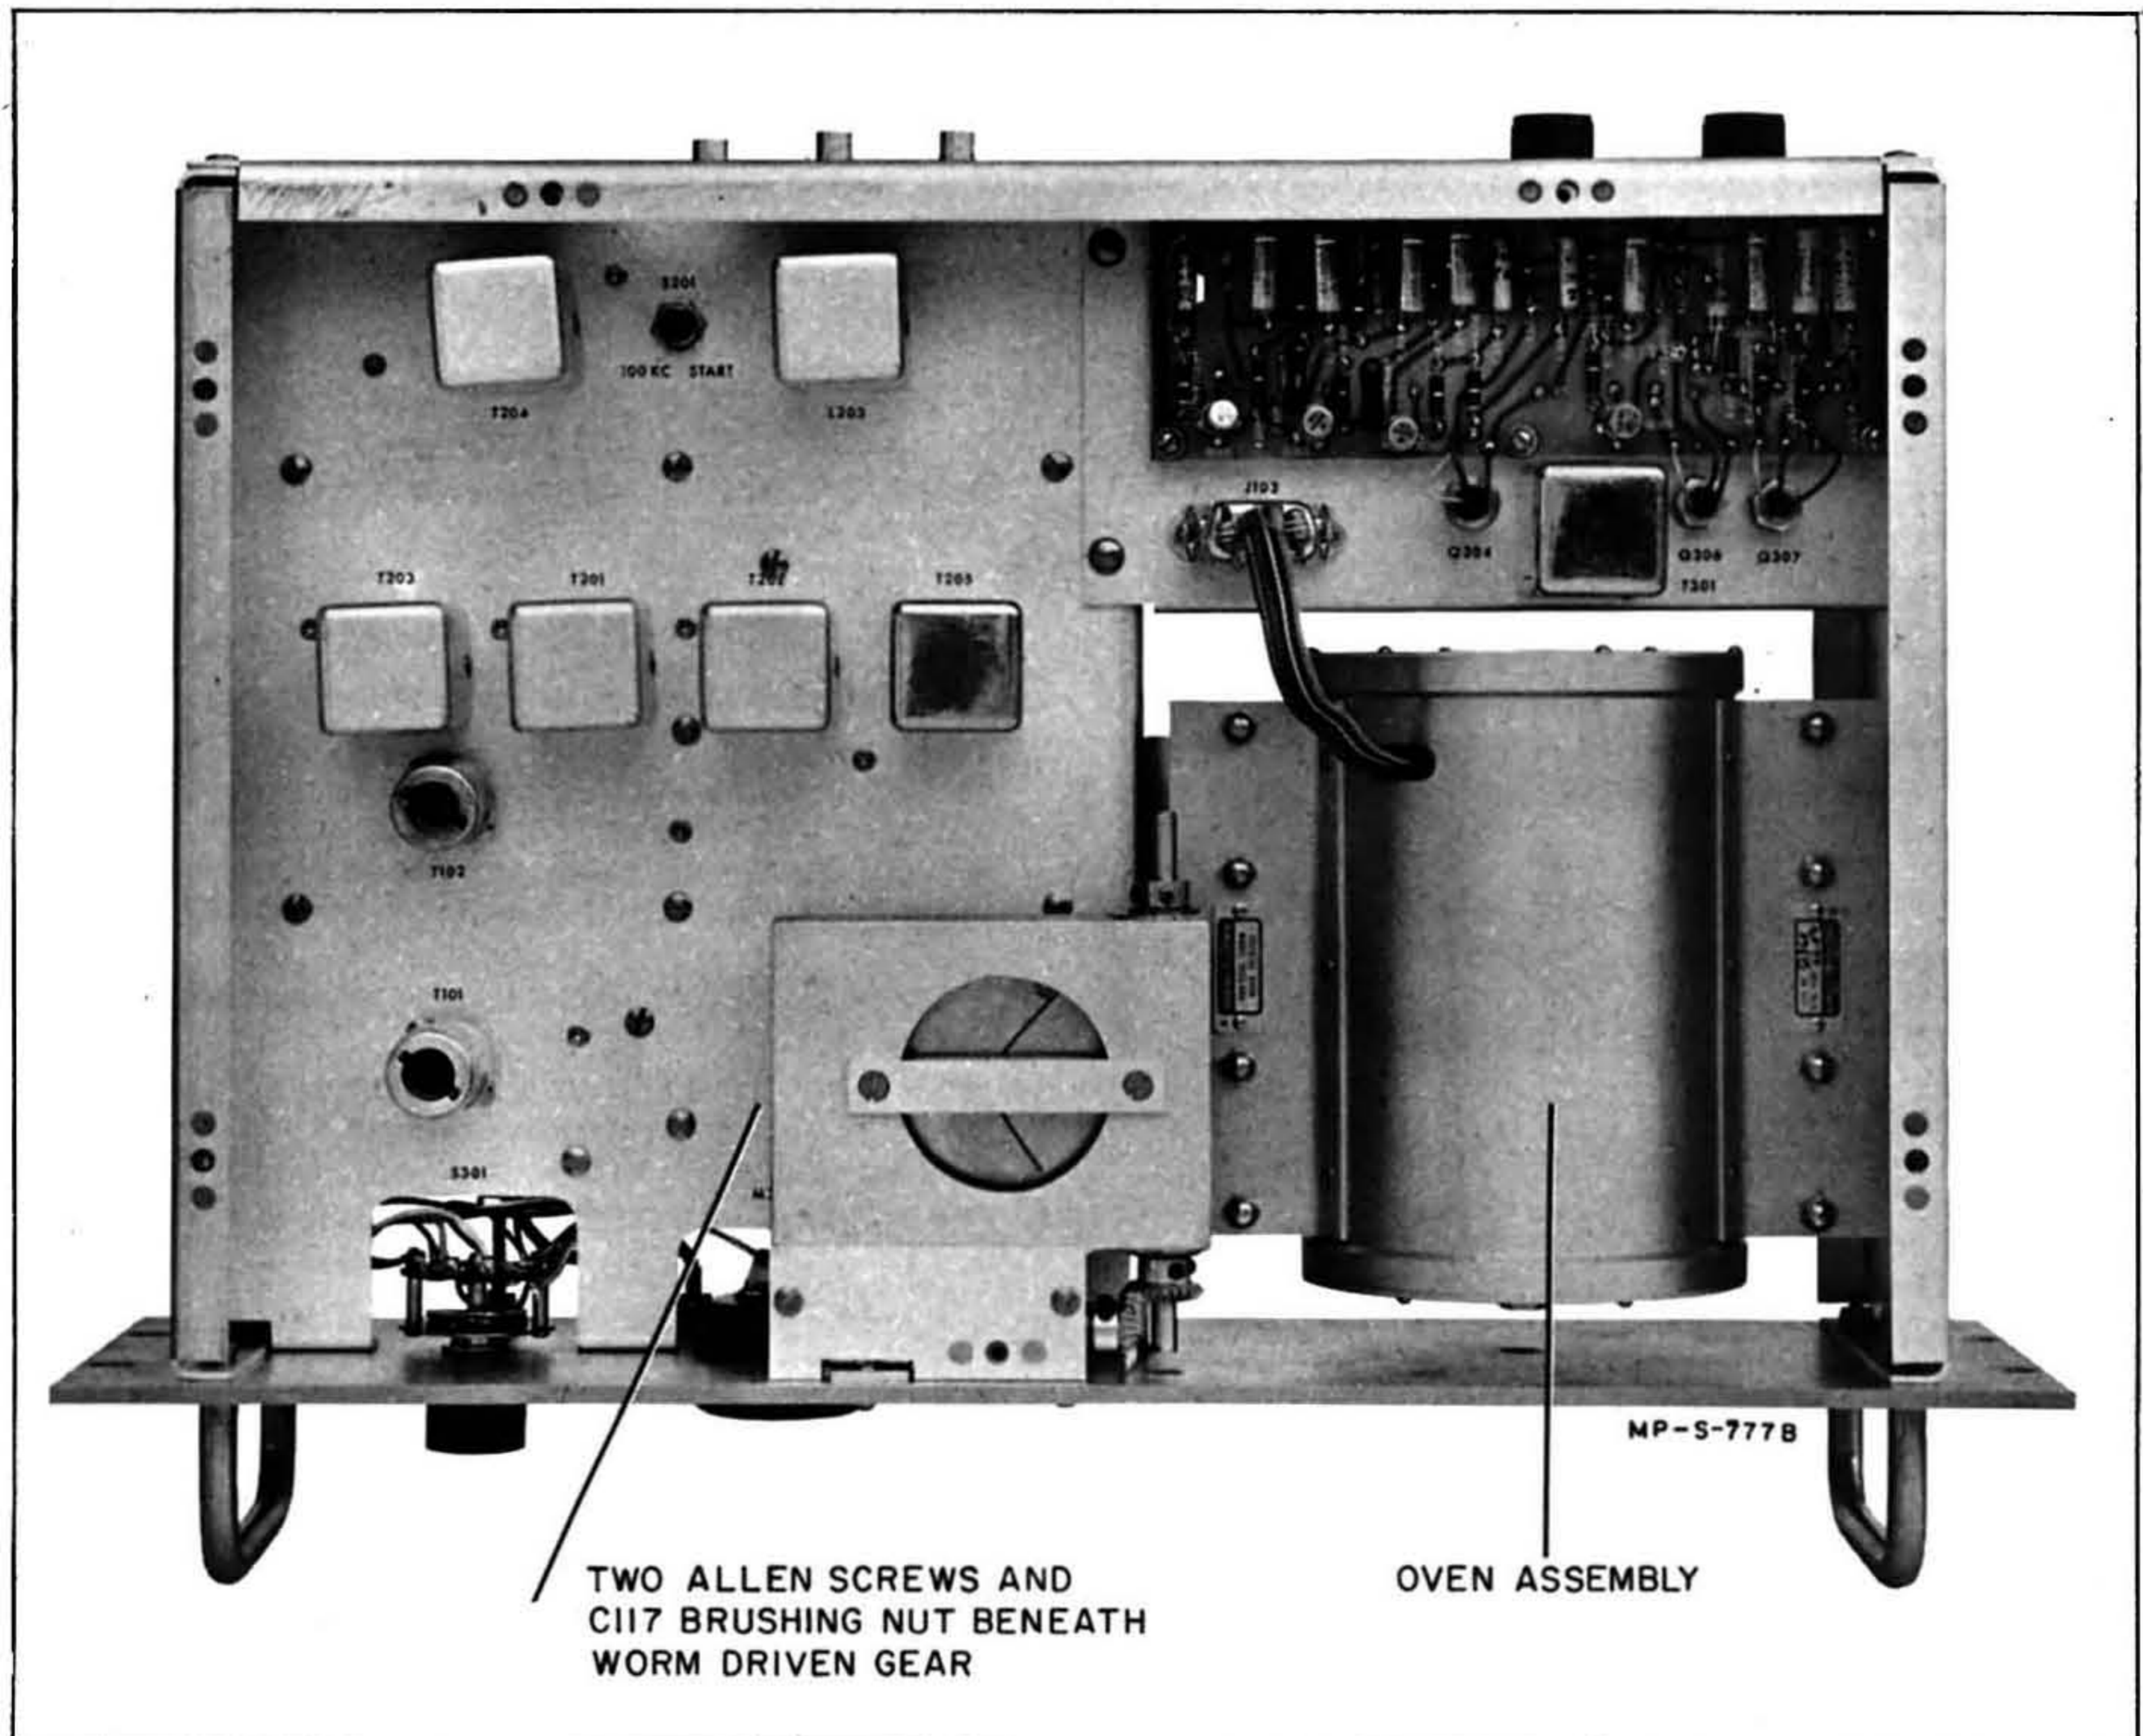

Figure 7-2. Top View Model 103AR
- b. Loosen the two allen screws on the worm driven gear. See figure 7-2.